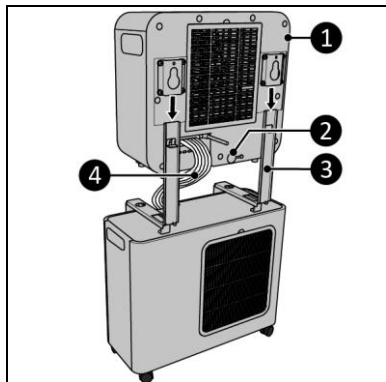

Figure 13
4. Slide the indoor unit (Figure 13, pos. 1) over the brackets (Figure 13, pos. 3).
5. Guide the refrigerant hose (Figure 13, pos. 4) between the indoor and outdoor unit. Avoid bending the refrigerant hose in smaller bends than 30 mm.
6. Remove the water stop plug (Figure 13, pos. 2).